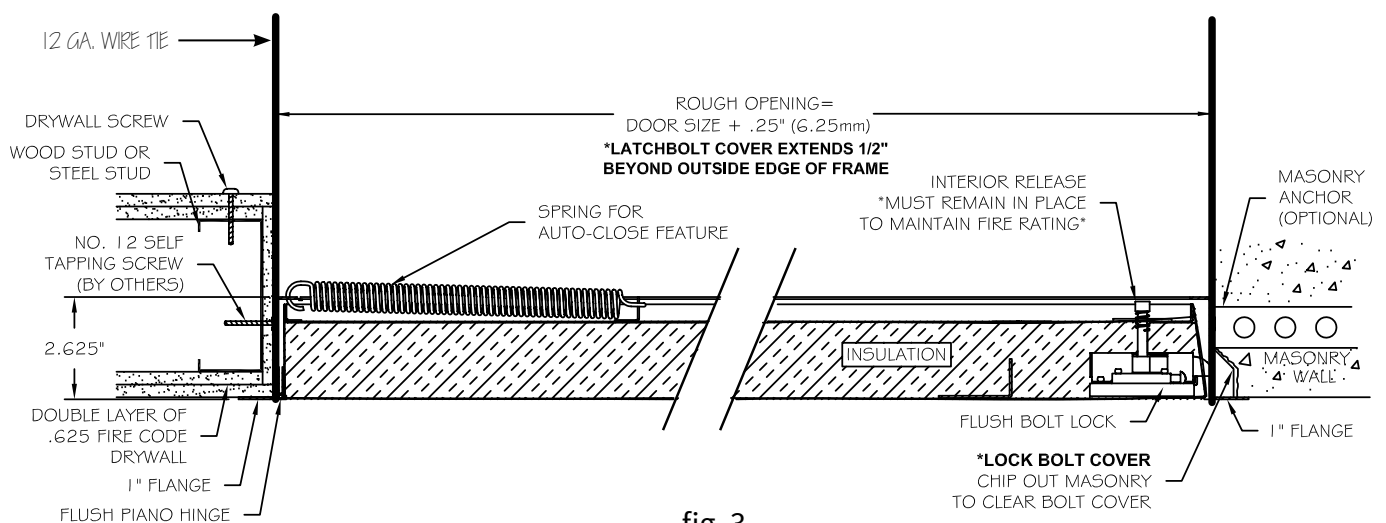

fig. 3
- 3. Frame can be supported with 12 gauge wire ties to ceiling structure at all four corners or plumbers tape attached from framing screws to studs of floor above for ease of installation, **fig. 3.**